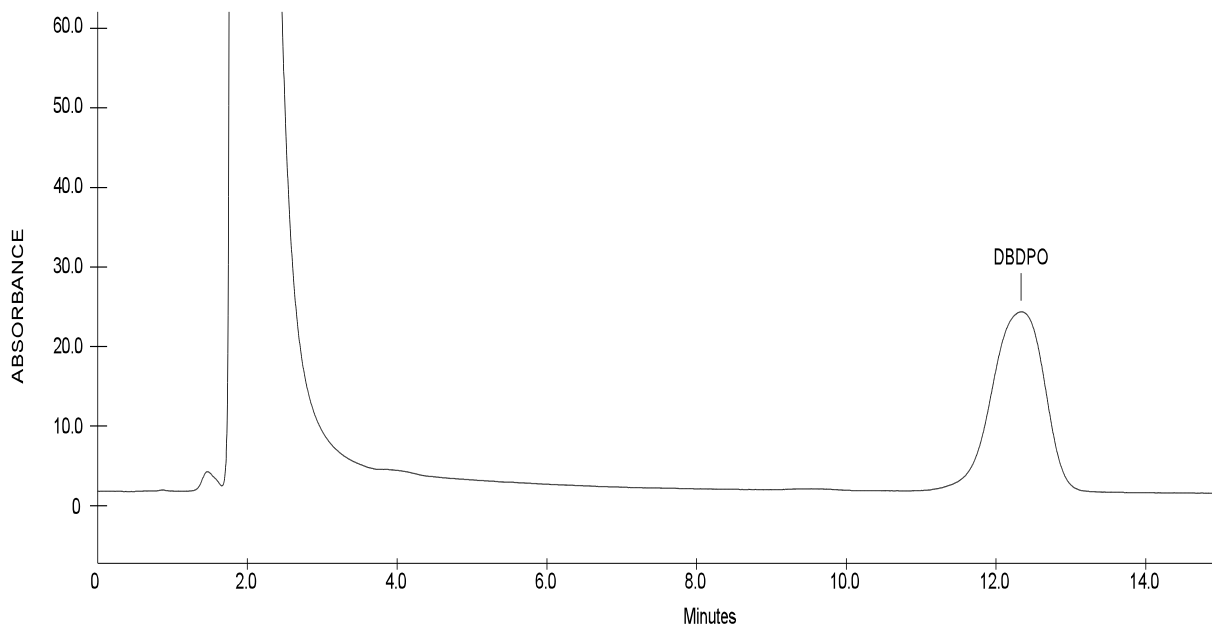

FIGURE 1: This chromatogram shows a standard of decabromodiphenyl oxide at 22.0 µg/sample. The major peak at approximately 12.2 minutes is DBDPO.
6. Calibrate daily with at least six calibration standards to cover the concentration range of the samples. A typical liquid chromatogram of a DBDPO standard is shown in Figure 1.
7. Determine the recovery (R) of the analyte from the sampling media using the quartz fiber filters with analyte spikes in the concentration range of the samples (see step 6). Prepare three filters at each of five levels plus two media blanks.